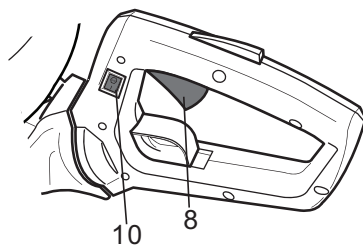

Fig. 14
- > Release the throttle trigger (8) and let the product run at its idle speed for 10 - 15 seconds.
- > Set the ignition switch (10) to its "**STOP**" (OFF) position (Fig. 14).